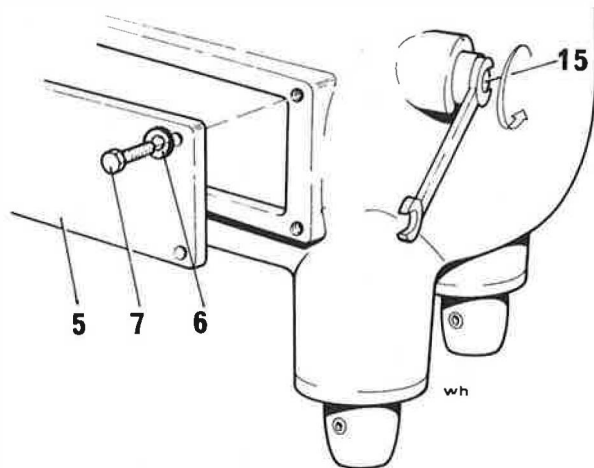

Fig. 8/1
- 2) Slacken back screw 15 (fig. 8/1) until it is possible to push the motor towards separator frame.